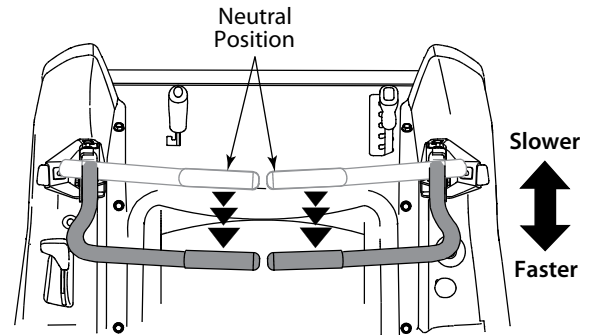

Figure 5-6
- Slowly and evenly move both drive control levers rearward. The tractor will start to move in the reverse direction. See Figure 5-6.